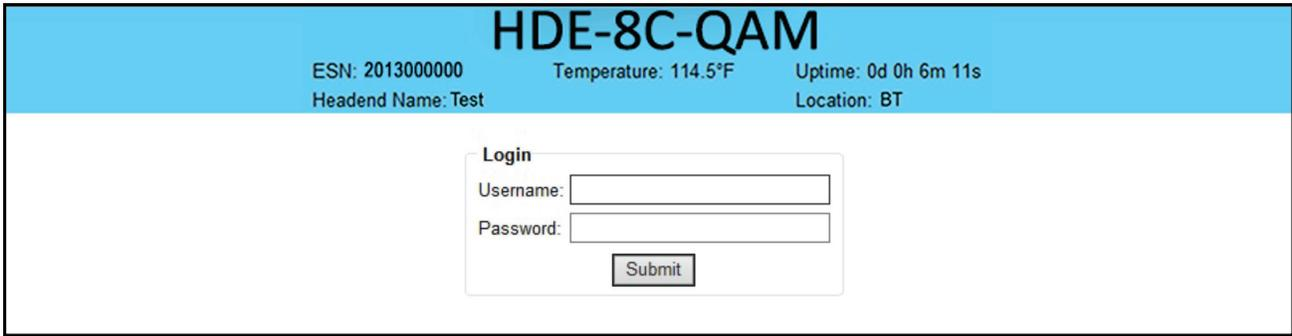

Figure 5.1 - "Login" Screen
- (1) Open a web browser on your computer (Internet Explorer 7 or higher is recommended) and enter the following URL address (**http://172.16.70.1**). The "Login" Screen (Figure 5.1) will appear.